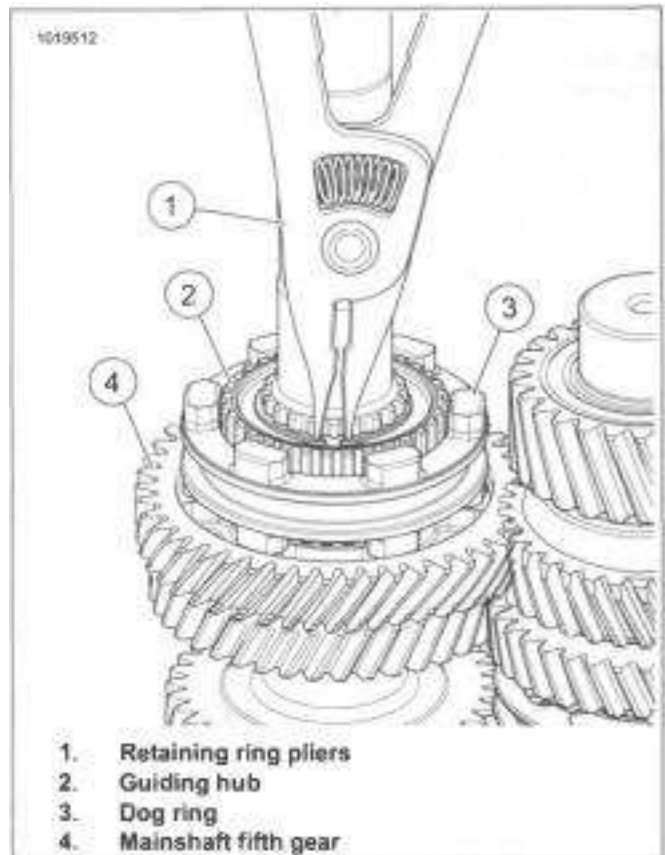

Figure 5-50. Mainshaft Fifth Gear
1. See Figure 5-50. Using 714 (OTC HORSESHOE LOCK RING PLIERS, ), remove retaining ring.
2. Remove dog ring (3), guiding hub (2), mainshaft fifth gear (4) and bearing.